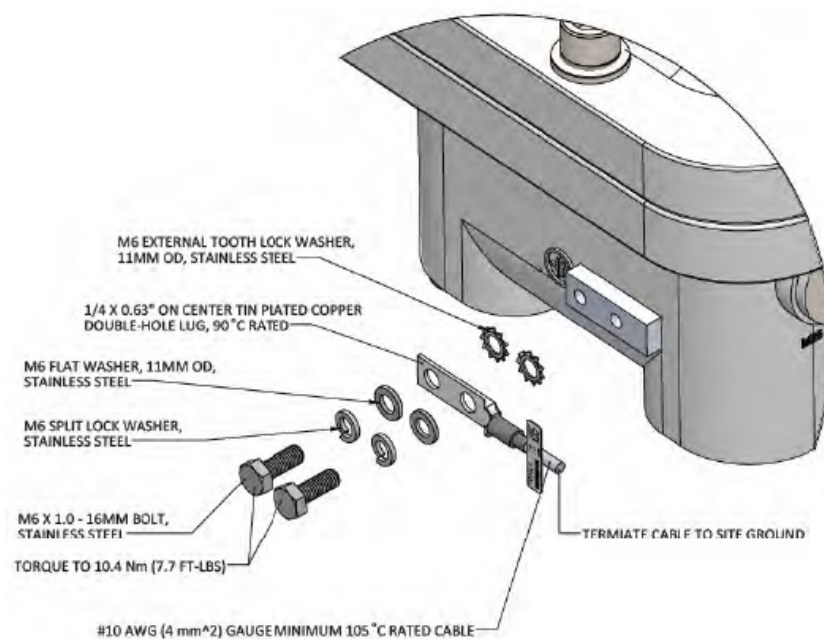

Figure 9: Kona Macro Ex Gateway PE Ground Installation
4. Install the ground cable through its double hole lug onto the chassis ground point using the two supplied M6 x 1.0 – 16 mm bolts with flat and star lock washers, torqued to 10.4 Nm (7.7 ft-lbs) (see Figure 9).